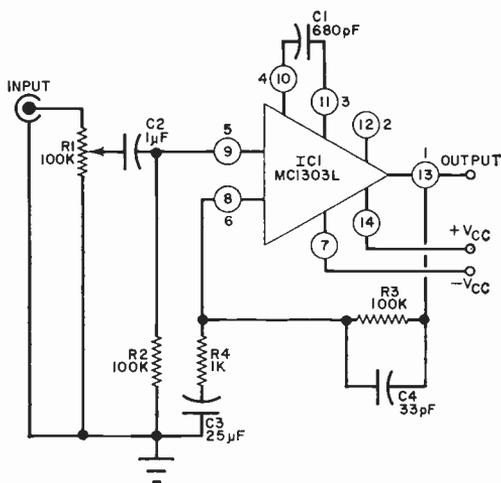

Fig. 1. The general-purpose broadband preamplifier is useful for microphone and tuner inputs. Only half of stereo system is shown in all diagrams.
Construction. The heart of the circuit, as shown in Fig. 1, is the breaker, in this case a conventional 1-ampere thermal type used in many TV sets. The resis-
Circuits. For a broadband, general-purpose preamplifier, use the circuit shown in Fig. 1. Only half of the circuit is shown with the terminal connections to the IC shown in the circles. For the second channel, duplicate the circuit, but use the IC pin numbers that are outside the circles in Fig. 1. Note that pins 2 and 12 are not used and that the volume controls for the halves are concentric.
To prevent possible damage to the IC, you may find it advantageous to use a 14-contact, in-line IC socket (see Parts List for Fig. 1). You can then complete the wiring of the circuit and examine it for possible errors without subjecting the IC to the possibility of heat damage or accidental voltage reversal. Note that the IC has a standard orientation mark on one end. Looking down at the top of the IC, the pins are numbered from 1 to 14
- Misc.—See Fig. 1.